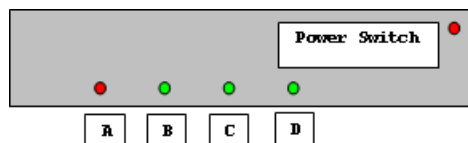

Figure 6: AIRSIS display LEDs
2. Open the front door and remove the battery cover plate. Locate the purge cutoff value on the left side. Rotate it to the closed position as shown in Figure 6 below.